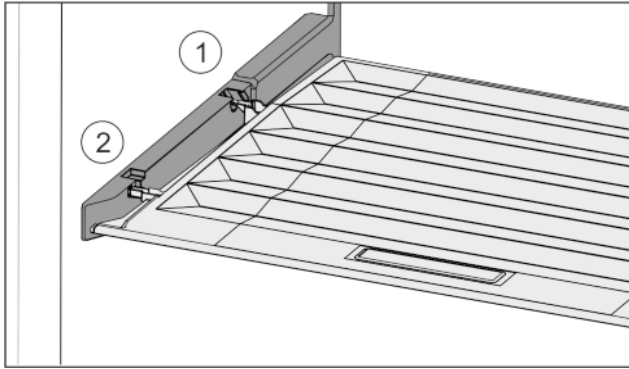

Fig. 30
- ▶ Insert the lip of the cover over the opening of the rear bracket Fig. 30 (1) and click into place Fig. 30 (2).